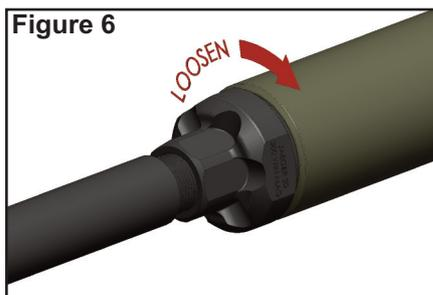

Figure 6
4. While firmly grasping the mount, unscrew the silencer from the muzzle threads in the direction indicated in Figure 6.